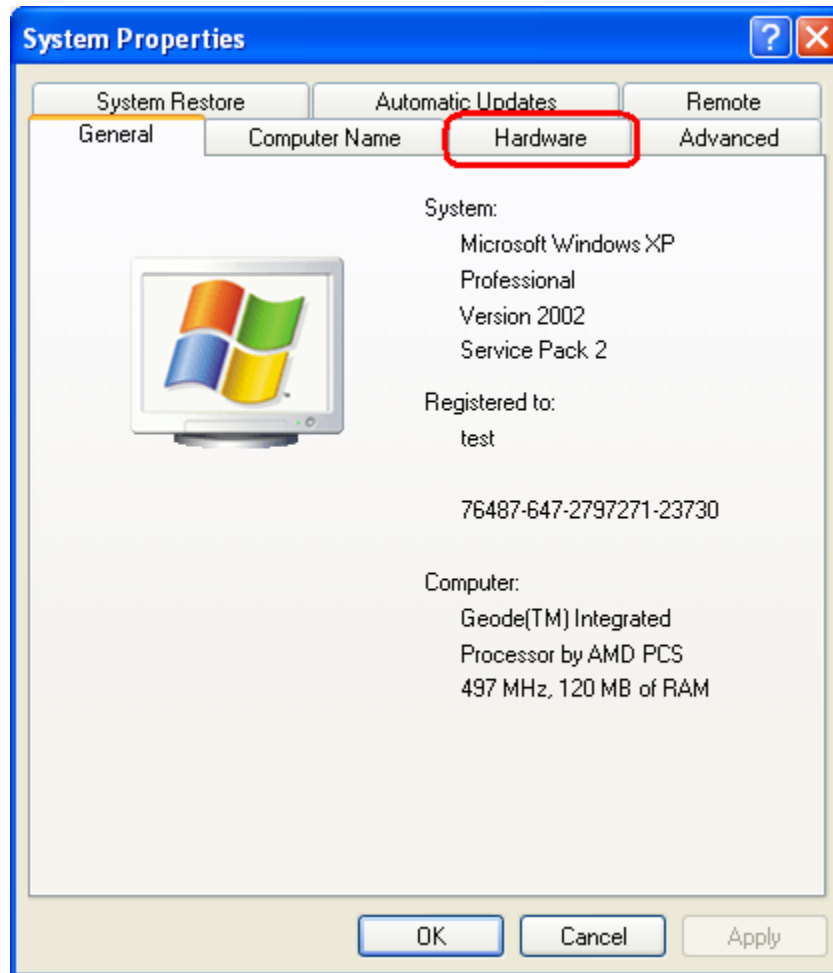

Figure 7-4: System Properties
Step 7: The **SYSTEM PROPERTIES** screen in **Figure 7-4** appears.
Step 8: Double click the **HARDWARE** tab in the **Systems Property** window **Figure 7-4**.